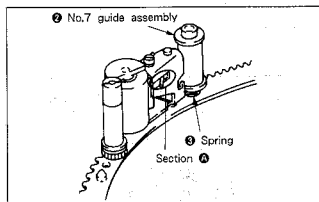

Fig. 7-24.
- 4) Hook the spring ③ on No.7 guide assembly ②. At this time, confirm that the spring ③ is hooked onto section A. (See Fig. 7-24.)